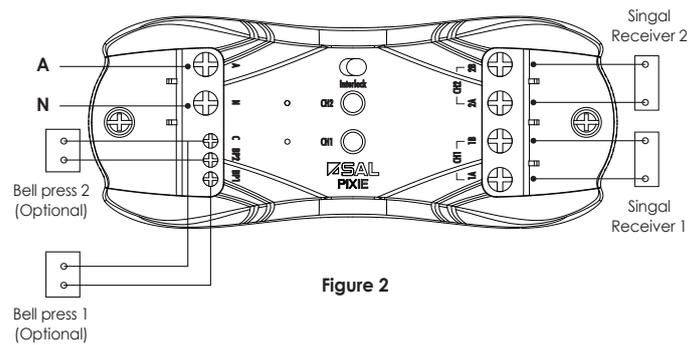

Figure 2
**Button Operation (optional):** It's optional that user can wire bell press (momentary switches) as per **Figure 2**, the operations of bell press are